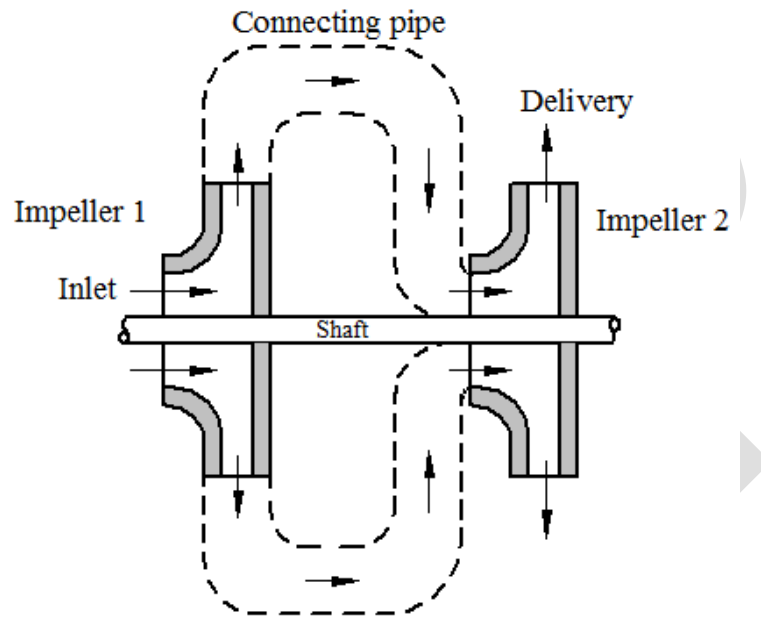

Fig. 5.9 Two stage centrifugal pump
**Answer:** If the centrifugal pump consists of two or more impellers connected in series on the same shaft, then the pump is called multistage pump. The water enters the impeller 1 of a multistage pump with two impellers as shown in figure 5.9 and pressure increases in it. The high pressure water from impeller 1 is then entering the impeller 2 where the pressure increases further. The flow generally is same in both the impeller. The head produced by the combined impellers will be higher than either of